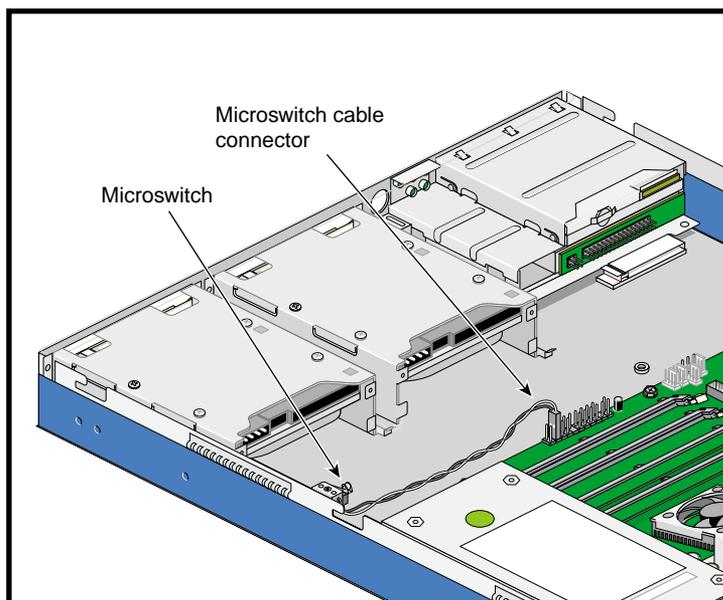

Figure 2-23 Location of the Intrusion Alert Microswitch Cable Connector
2. Disconnect the intrusion alert microswitch cable connector from the system board. See Figure 2-23 for the location of the intrusion alert microswitch cable connector.
2. Connect the intrusion alert microswitch cable connector to the system board connector CN15, pins 19 and 20. See Figure 2-23 for the location of intrusion alert microswitch cable connector.